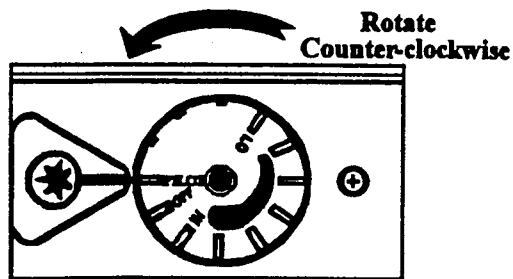

Figure 6.1
A. This heater has an ODS (Oxygen Depletion Sensor) pilot which is ignited by a hand operated piezo. When lighting the pilot, follow these instructions. The piezo ignitor and control knob are identified in Figure 6.1.
3. Refer to Figure 6.1 for the location of the piezo ignitor and control knob. Turn control knob clockwise to OFF position.
6. Turn the control knob counterclockwise to the PILOT position (See Figure 6.1).